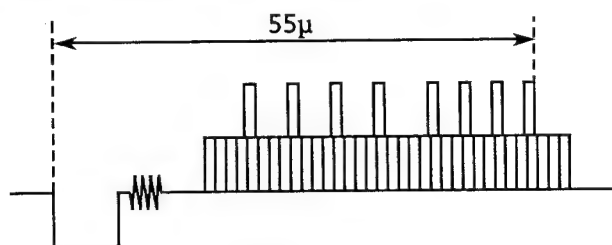

Figure 2-16.
- (1) Connect the oscilloscope to the VIDEO OUT jack.
- (2) Press the ON SCREEN button on the remote control so that characters are displayed on the monitor screen.
- (3) Adjust C5916 so that the time period between the horizontal sync and the last character is $55 \pm 1 \mu\text{sec}$ as shown in Figure 2-16.
- (4) Make sure the position of the characters is not set to far left or right on the screen.